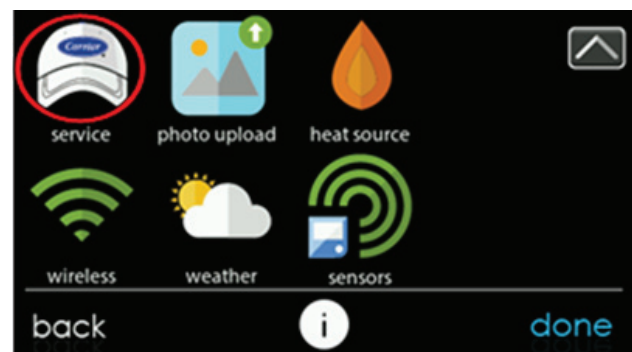
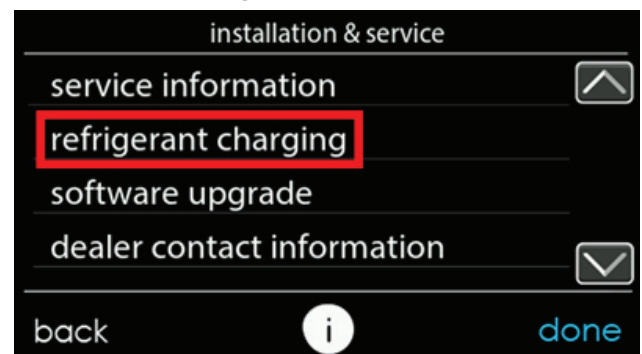

Fig. 11 – Service Icon
Fig. 12 – Select Refrigerant Charging
4. Navigate to the service area by pressing MENU from main screen (see Fig. 11). Scroll down to service icon and hold until icon turns green. Once in the "Installation and Service" menu, select "Refrigerant Charging" (see Fig. 12).
2. In the "installation and service" menu of the UI (see Fig. 11), go to "refrigerant charging" and then "pump down" (see Fig. 11 & Fig. 12).
2. In the "installation and service" menu of the UI (see Fig. 11), go to "refrigerant charging" and then "evacuation" (see Fig. 12) and Fig. 13).